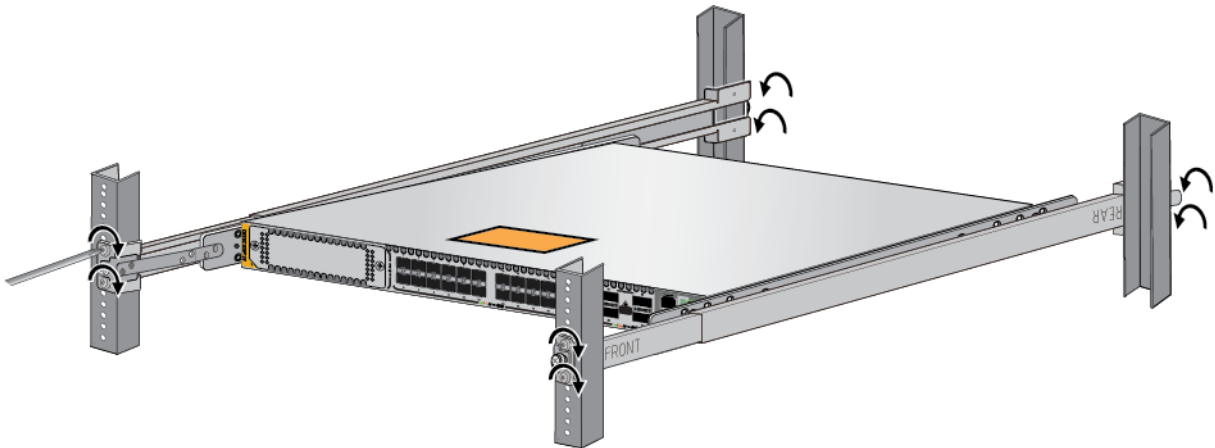

Figure 26. Tightening the Screws on the Outer Rails
5. Finish tightening the eight screws on the outer rails to secure the rails to the equipment rack. Refer to Figure 26.